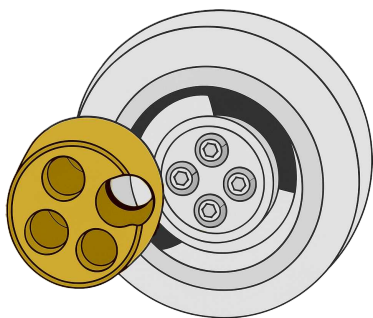

Fig. 2
- Used to lock the crankshaft pulley, allowing the gradual loosening of pulley bolts without turning the crankshaft, as shown in Fig. 2 and 3.